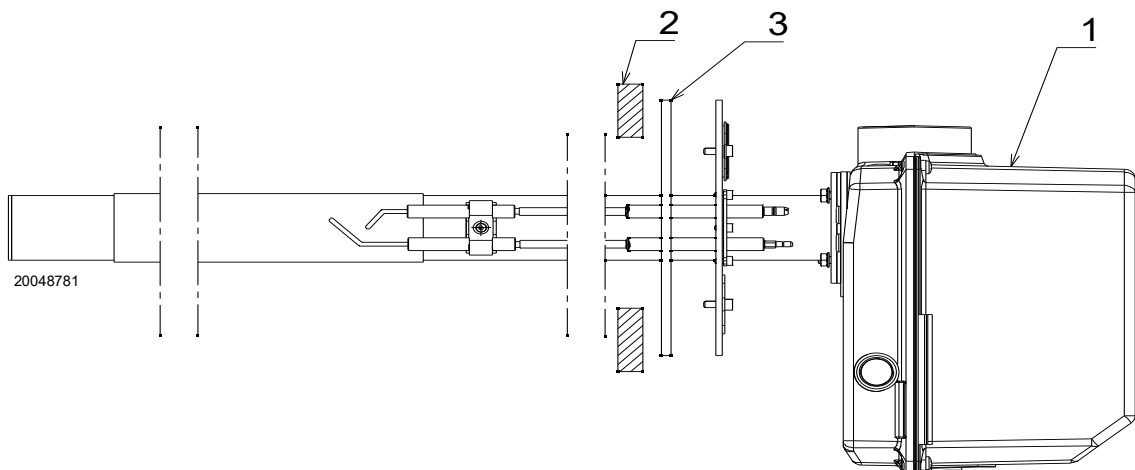

Fig. 7
- Fix the burner 1)(Fig. 7) to the boiler door 2) using the 4 screws and (if necessary) the 4 nuts, interposing the insulating gasket 3) (not supplied with the burner).